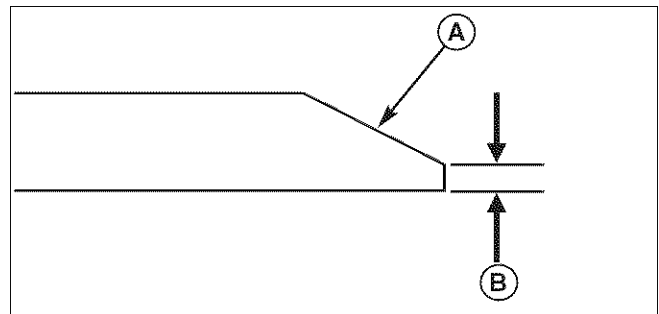

Figure 26. Sharpening the Mower Blade
3. Keep the original bevel (A, Figure 26) when grinding. DO NOT change the mower blade bevel.
4. The mower blade should have a maximum 1/64" (0,40 mm) cutting edge (B) or less.